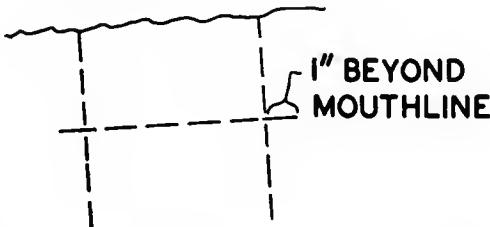

Fig. 137. Marking the mouthline.
- B. Extend the markings 1 in. beyond the end of the mouthline and guide-baste at each end at right angles to it (Fig. 137).